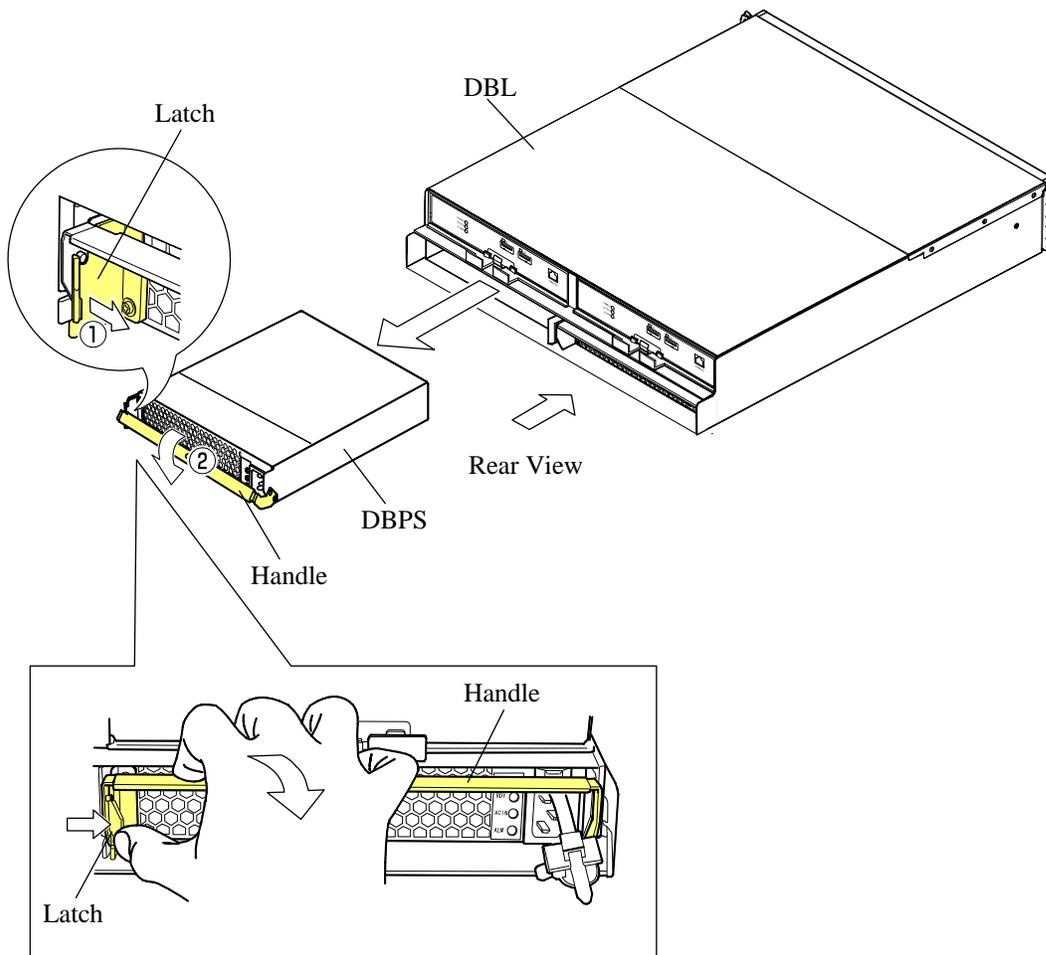

Fig. 3.23.2-4 Replacement of DBPS
- m. Attach the repeat binder to the rail of the rear side of the DBL to fix the power cable. (See Fig. 3.23.2-2.)